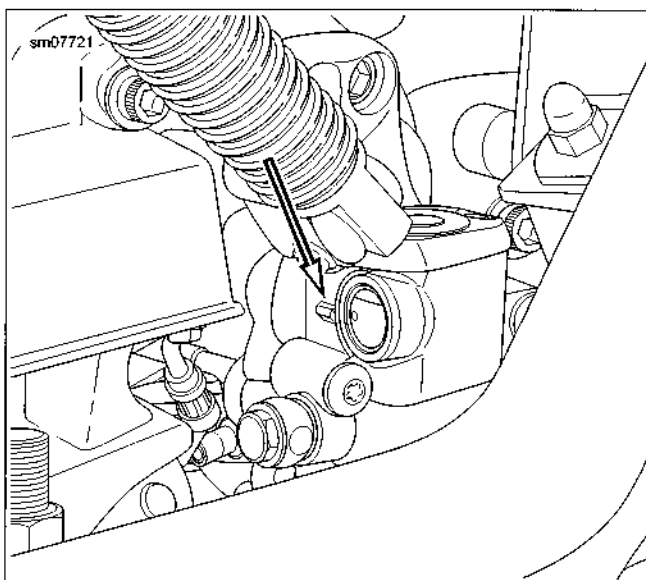

Figure 1-31. Reservoir Low Level Mark
- b. See Figure 1-31. Check low-level mark on reservoir sight glass.